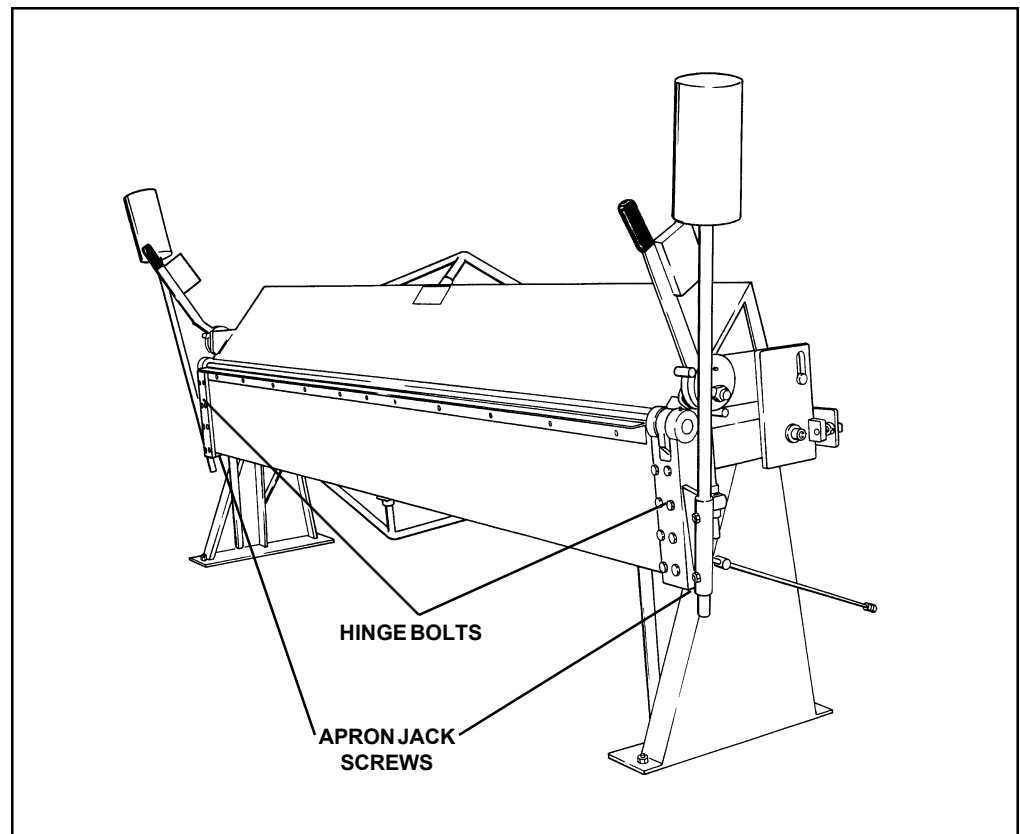

Figure 13. Apron Adjusting Components.
4. Check the top edge of apron in relation to the top surface of the bed. The top edge of apron must be $\frac{1}{64}$ -in. below the top surface of the bed at each end. If not, loosen the hinge bolts and adjust the apron up or down using the apron jack screws (see Figure 13). After the apron edge is adjusted to the proper position, be sure to retighten the hinge bolts.